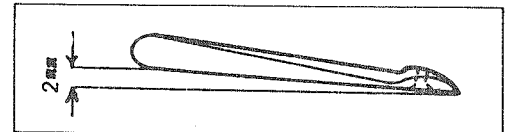

Fig. 4
b) Attach the lower looper to the looper support arm slanting to the operator by 2 mm ($\frac{5}{64}$ ") as shown in Fig. 4 and tighten the looper setscrew.